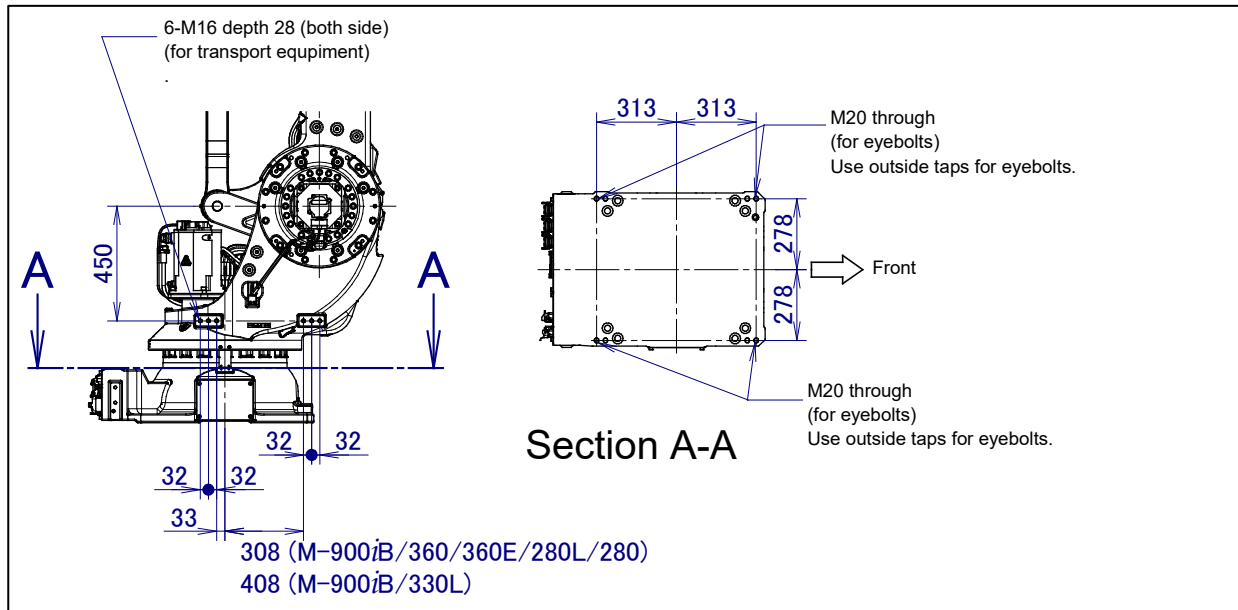

Fig. 1.1 (a) Position of the eyebolts and transportation equipment
- (1) Transportation using a crane (Fig. 1.1 (b) to (e))